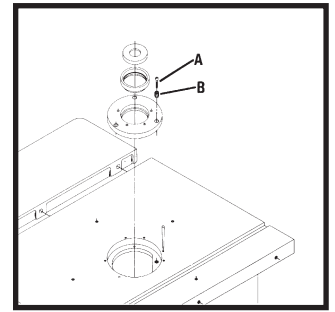

Fig. 8
Three table inserts are provided for various size cutters (Fig. 8). The large insert is adjustable. To set it flush with the table:
1. Remove the three slotted head screws (A) Fig. 8.
2. Use a screwdriver to turn the three adjusting screws (B) Fig.8 until the insert is flush with the table.
3. Replace the slotted head screws (A).